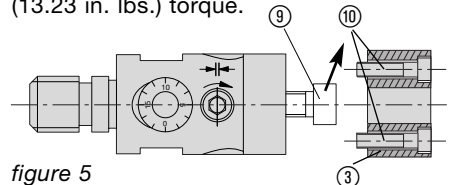

figure 5
Remove cap screw ⑨. Secure adaptor ③ for the tool holder centrally on the adjusting plate (figure 5). Secure the adaptor using cap screw ⑩. Apply **1,5 Nm** (13.23 in. lbs.) torque.